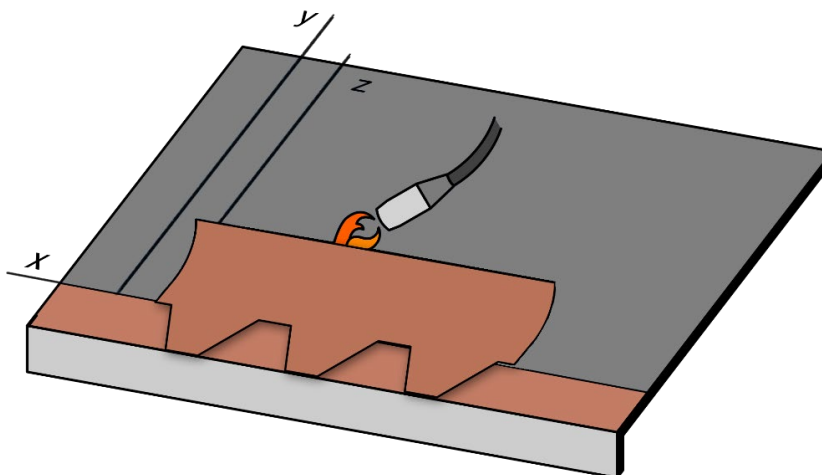

Fig. 17 - First row shingles installation by torch
- Proceed with the installation of the first row of shingles: align the lateral edge of the first shingle on the vertical **z** and the upper edge on the horizontal 14,3 cm from **x** - see Fig. 17. Fix the shingle to the membrane using the torch and lifting the top of the shingle with a tool, Fig. 17. The self-adhesive points will fix the tabs of the shingles of the first row to the shingles below, of the starting row. Move forward installing all the shingles of the first row.